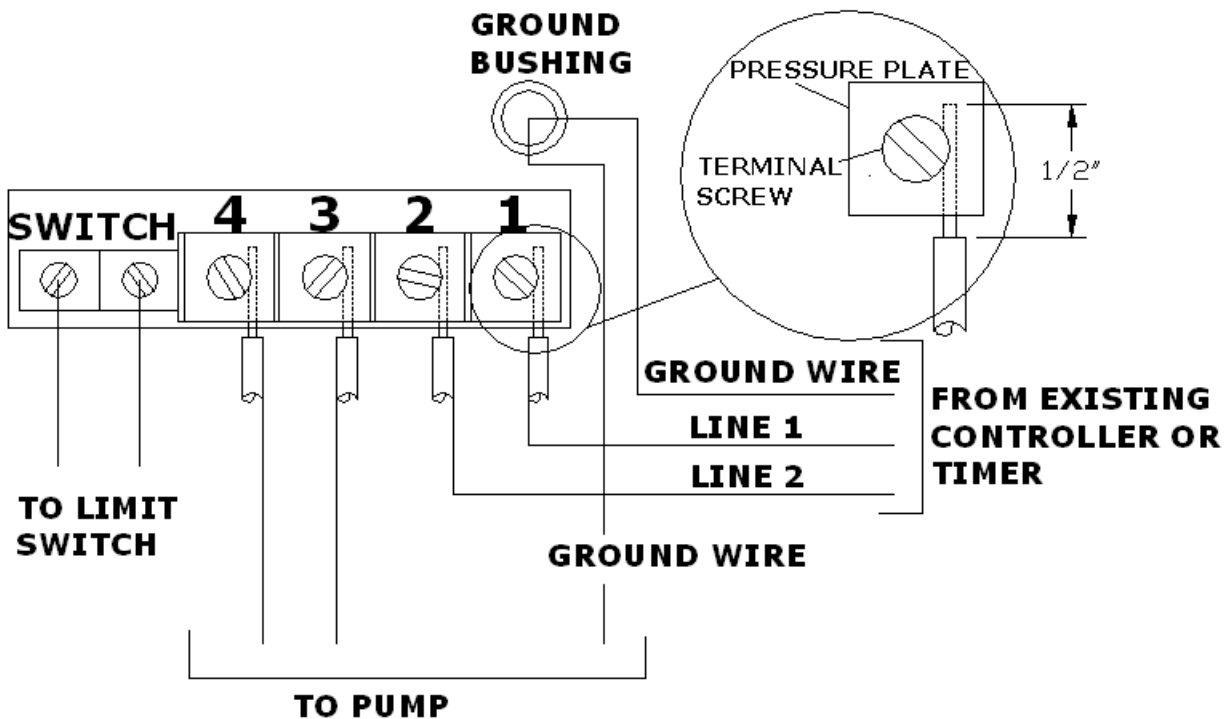

Figure 2. SVRS Box Terminal Layout
- 1.10 Attach the wires coming from the controller (Paragraph 1.7) and from the pump (Paragraphs 1.8 or 1.9) to the terminals of the SVRS box as shown in wiring diagram Figure 2. Insert only the
stripped copper ends of wires under the pressure plates of terminal screws as shown in Figure 2. Tighten screws firmly (20 to 25 inch-lbs). Install front insulator cover using the provided screws.